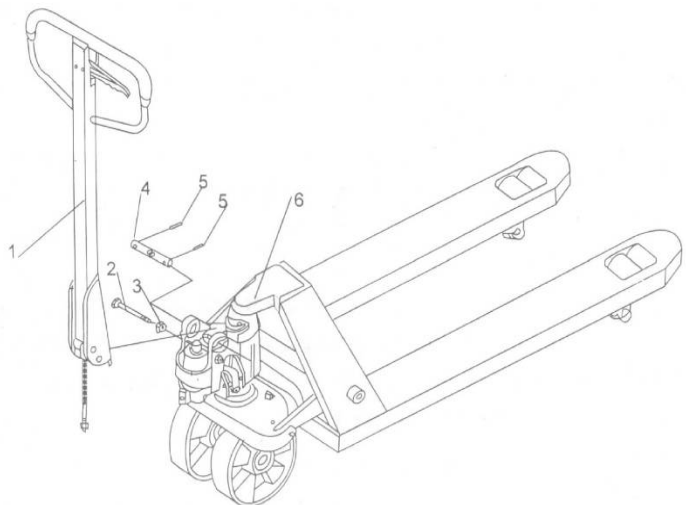

Fig.5 Tiller assembling
c) Press the tiller arm down; take away the pin (2, Fig. 5).
d) Set the control lever of the handle to 'RAISE' position, then raise the lever plate with the pin (2, Fig. 5) and insert the adjusting bolt into the front slot of lever plate. Note: Keep the adjusting nut under the lever plate.
e) Use a hammer to insert the 2nd dowel pin (5, Fig. 5) into the 2nd hole of the axle. The draw-bar is now assembled to the pump.